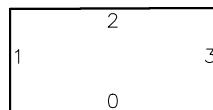
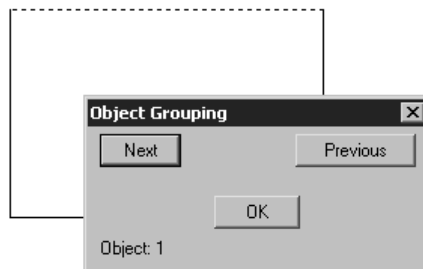

Figure 20-5 Changing the order of group objects
Figure 20-6 The **Object Grouping** dialog box
Figure 20-5 shows four objects that are in group G1. Determine the order of these objects and then reorder them in a clockwise direction.
- Use the **Highlight** button to highlight the current order of individual objects in the selected group. Figure 20-5(a) shows the order of objects in group G1. When you choose the **Highlight** button, the **Object Grouping** dialog box (Figure 20-6) is displayed. You can use the **Next** and **Previous** buttons to cycle through the group objects. To create a tool path so that the tool moves in the clockwise direction, you need to reorder the objects, as shown in Figure 20-5(b).